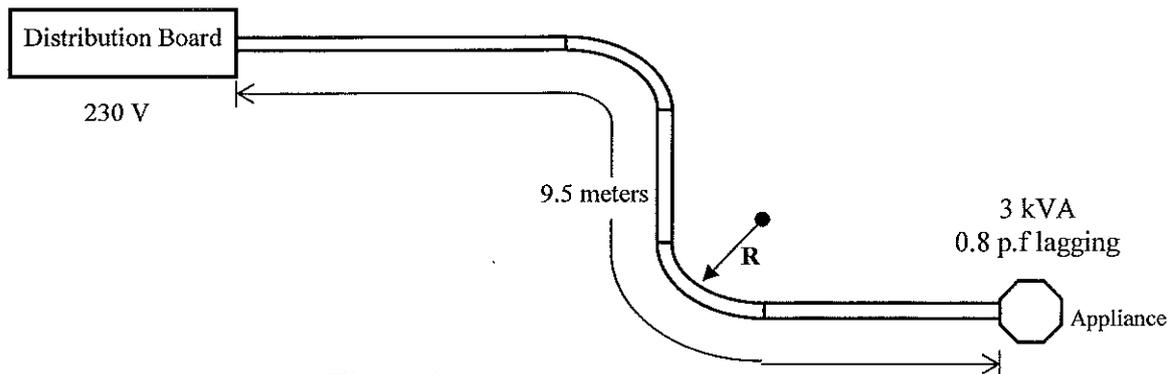

Figure Q1
1. A single phase 230 V, electric appliance is to be fed from a distribution board as shown in figure Q1. The PVC insulated copper (thermo-plastic) cable circuit recommended for this installation is enclosed in a conduit with 2 other similar size cable circuits embedded in a wall. The maximum and minimum ambient temperatures at the installation are observed to be 30°C and 32 °C respectively.